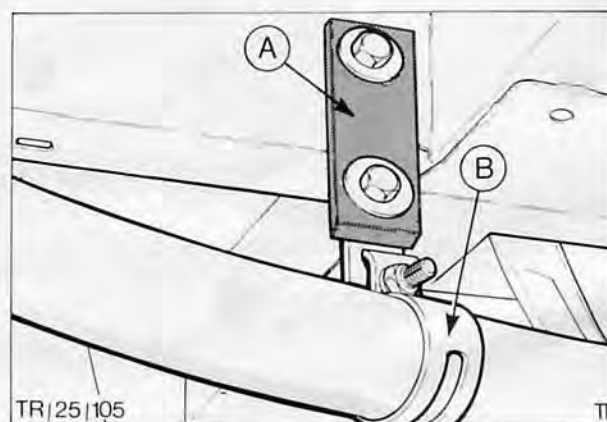

Fig. 32. Rear support of rear tail pipe on OHV and Diesel variants
2. Separate support strap from exhaust mounting bracket by removing the securing nut and bolt, Figs. 32 and 33.